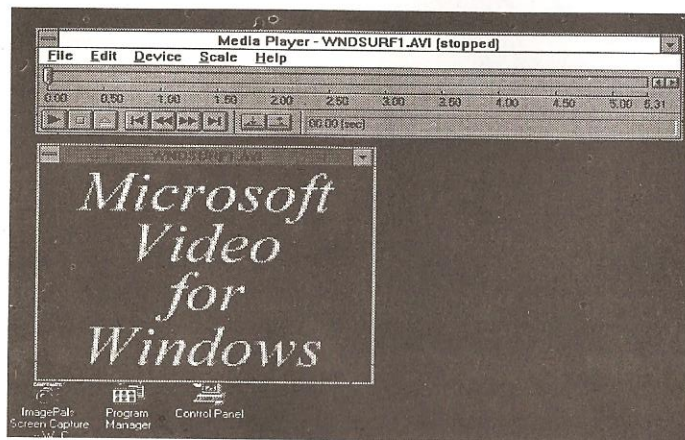

Figure 3: Media Player and Video Window
- Click on [Device] on the menu bar of Media Player. Refer to Figure 3, "Media Player and Video Window".
5. Once a file is selected, a video window will appear on the screen with the first frame of the video displayed. Start the video by clicking on the start button of Media Player. Refer to Figure 3, "Media Player and Video Window."